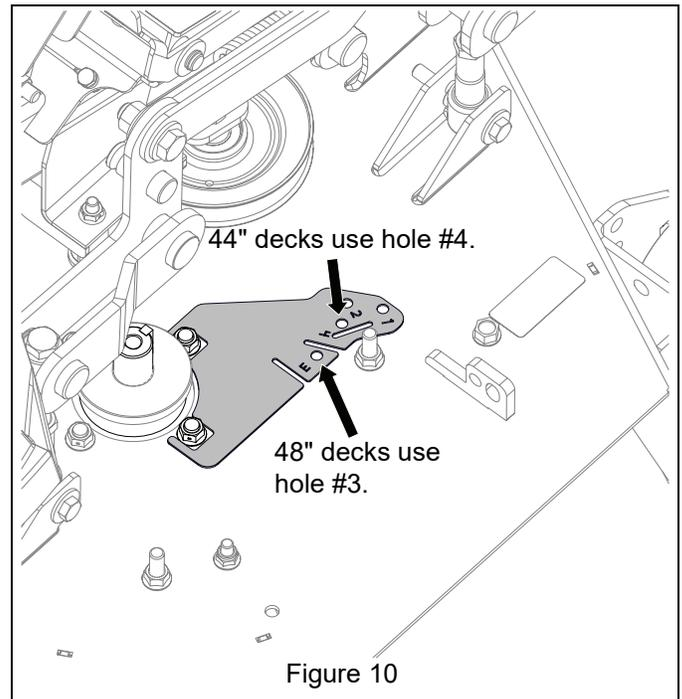

Figure 10
- Position the template against the right spindle outer and front mounting nuts. See Figure 10.
See Figure 10.